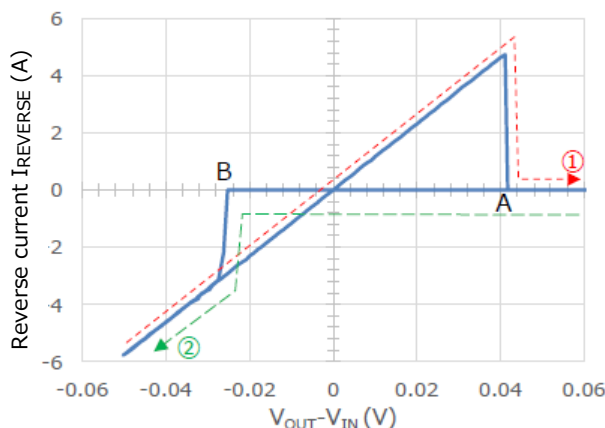

Figure 3.12 Example of $I_{REVERSE}$ vs. $V_{OUT} - V_{IN}$ characteristics
For your reference, Figure 3.12 shows the reverse-current characteristics of the TC111G with a true reverse-current blocking function. As highlighted by the red line (①), $I_{REVERSE}$ increases as the difference between V_{OUT} and V_{IN} ($V_{OUT} - V_{IN}$) increases. Reverse-current blocking is enabled when $V_{OUT} - V_{IN}$ reaches Point A at which it is approximately 40 mV, blocking $I_{REVERSE}$. When V_{IN} becomes higher than V_{OUT} by roughly 30 mV (at Point B) as highlighted by the green line (②), reverse-current blocking is disabled, causing current to begin flowing again in the forward direction.